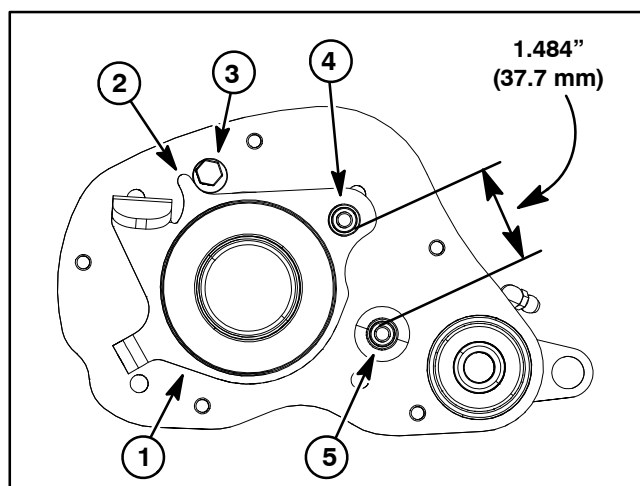

Figure 28
3. Check adjustment of adjustment cam (Fig. 28):